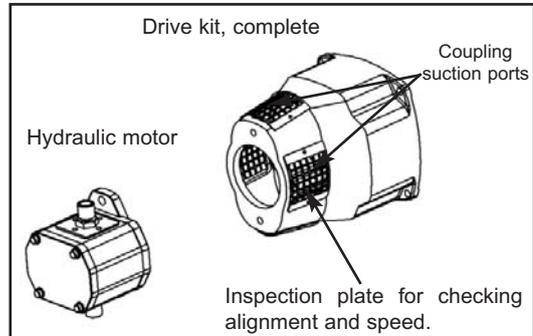

Figure 6
1. If the compressor is to be driven hydraulically, MOVEX can supply a standard Drive Kit for direct mounting of the hydraulic motor or hydraulic pump. MOVEX can also supply the hydraulic motor ; See figure 6.
3. If the couplings are aligned correctly, the outer plastic sleeve should have 0.19 inch (5 mm) axial play through 360° rotation. This can be checked by removing the inspection plate ; See figure 6.